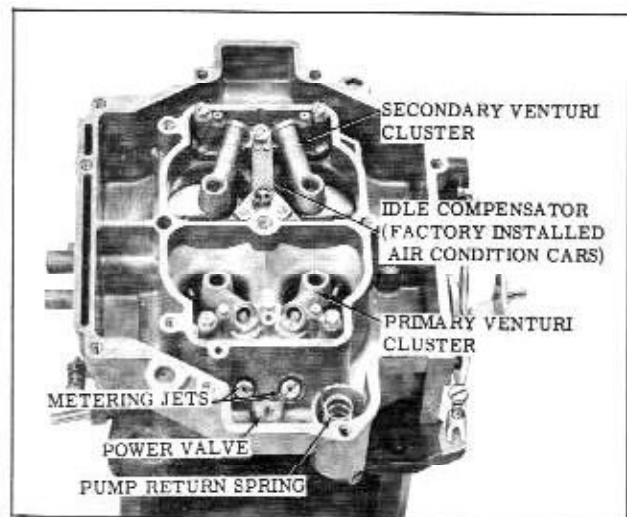

Fig. 8-103 Float Bowl Assembly
6. Install the power valve and gasket, and the two primary main metering jets. (Fig. 8-103)